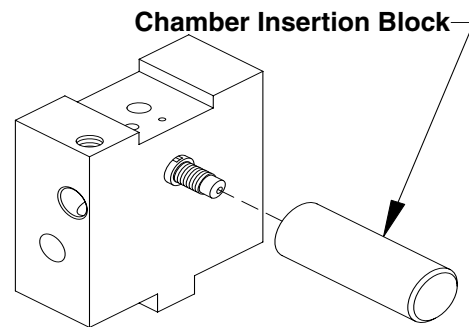

FIG. 27: Chamber Seating
6. With rear of gun block facing palm of your hand, place mixing chamber insertion block over nose of chamber so it rests squarely on the chamber flange. Firmly tap insertion block with hammer until flange of chamber is flush with face of gun block (FIG. 27).